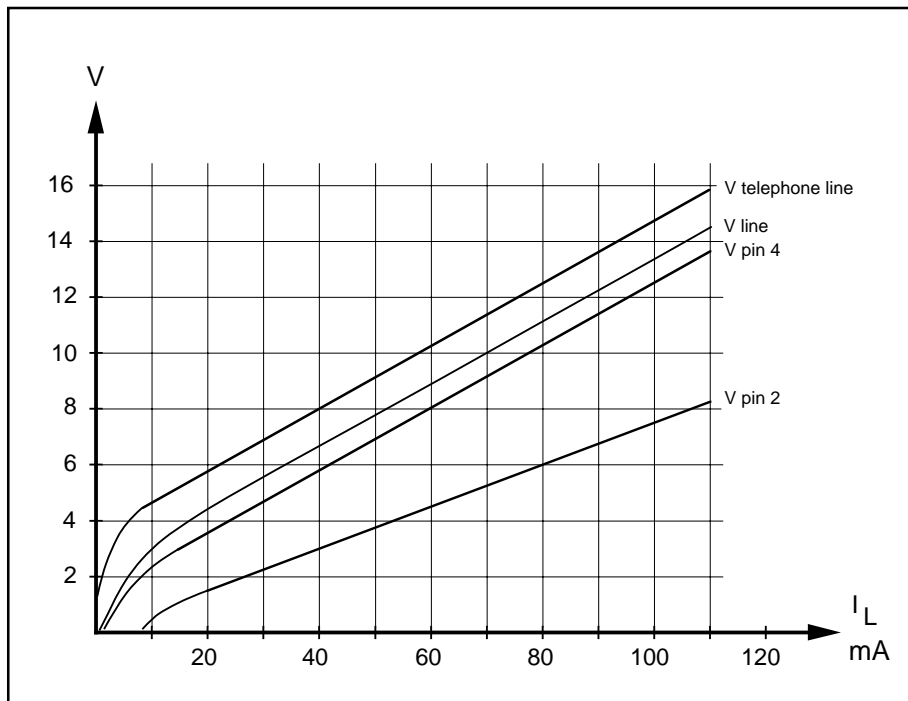

Figure 7. DC - characteristics. (R6 = 75Ω)
- The highest voltage that the telephone may have at different line currents. Normally set by the network owners specification. The lowest voltage for the telephone is normally set by the voltages that are needed for the different parts of the telephone to function. For ex. for transmitter output amplifier, receiver output amplifier, dialler, speech switching. R6 will set the slope of the DC-char. and the rest of the level is set by some constants in the circuit as shown in the equation below. The slope of the DC-char. will also influence the line length regulation (when used) and thus the gain of both transmitter and receiver. See the table under gain regulation. R6 also acts as power protection for the circuit, this must be kept in mind when low values of R6 are considered. See fig. 7.